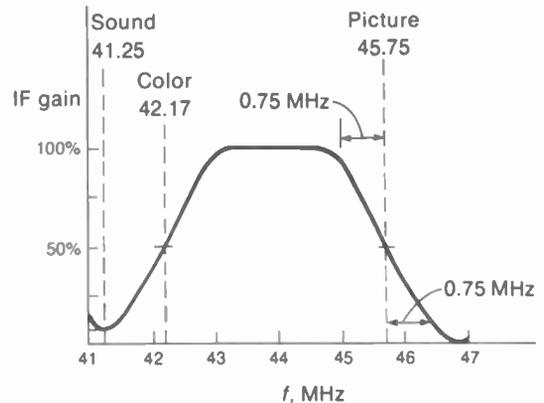

FIGURE 23-14 IDEAL PICTURE IF RESPONSE CURVE.
The graph in Fig. 23-14 compares how much overall voltage amplification the IF section has for different frequencies in the passband. Note the following features of this ideal IF response curve:
In order to equalize the effect of vestigial-sideband transmission, the overall IF response is aligned to give the picture carrier approximately 50 percent of maximum response, as shown in Fig. 23-14. As a result, the two side bands of a double-sideband signal are given an
**Transistorized IF amplifier for color receiver.** See Fig. 23-19. The overall IF response for this color receiver is the same as Fig. 23-14, with 45.75 MHz for the IF picture carrier and 42.17 MHz for the IF color subcarrier at 50 percent response at opposite sides of the curve.